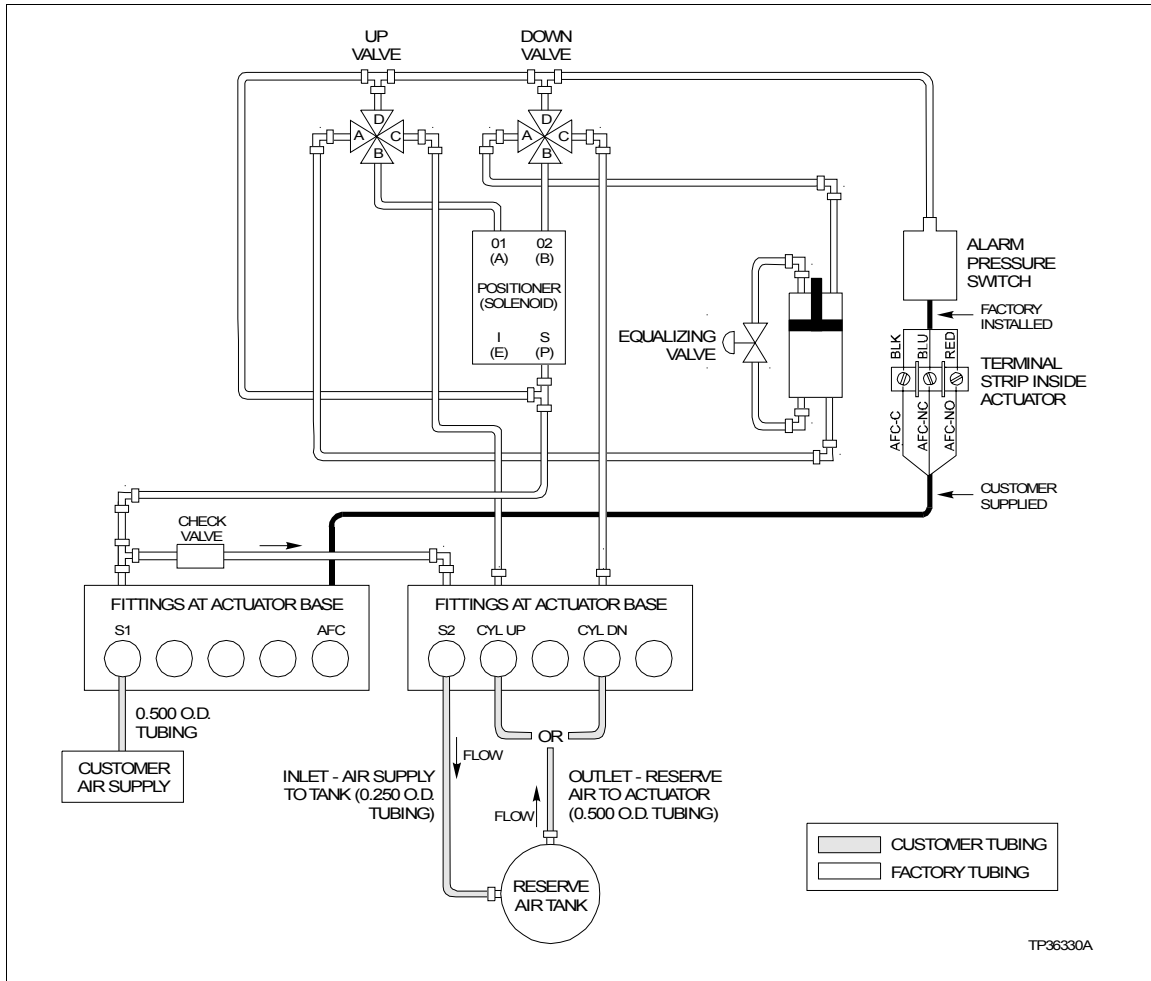

Figure 3-13. Reserve Air Tank Tubing for Types UP3 through UP6 Actuators
**NOTE:** Refer to Figures 3-13, B-12 and B-13.
7. Make the connections to the proper points on the terminal strip as shown in Figure 3-13.